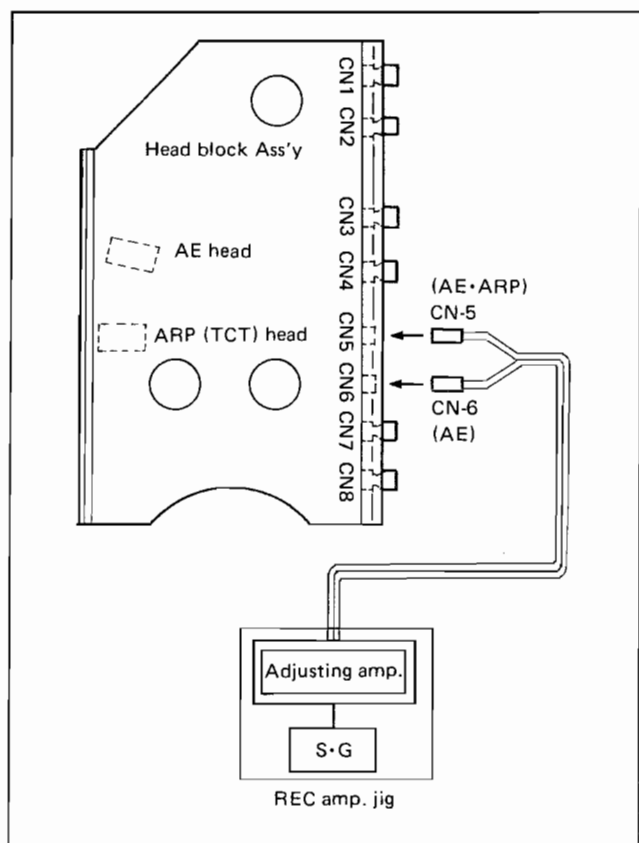

Fig. 5-29.
- ③ Cut off two tape samples and smear them uniformly with the developing solution by using a stick.
- ④ Observe the distance, of one of the two tape samples, between the lower tape edge and each track edge under an optical microscope. (With one tape sample as a spare)
- ① Select the select box (REC amp. jig) SWs of the AE (with right and left gaps) and ARP heads, respectively, to read the data as same as digital head (Refer to Fig. 5-29.)